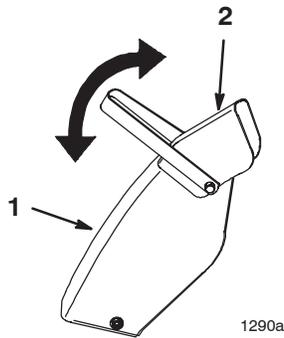

Figure 7
- The chute deflector, on top of the discharge chute, can be moved up and down to control the height and distance snow is thrown (Fig. 7).